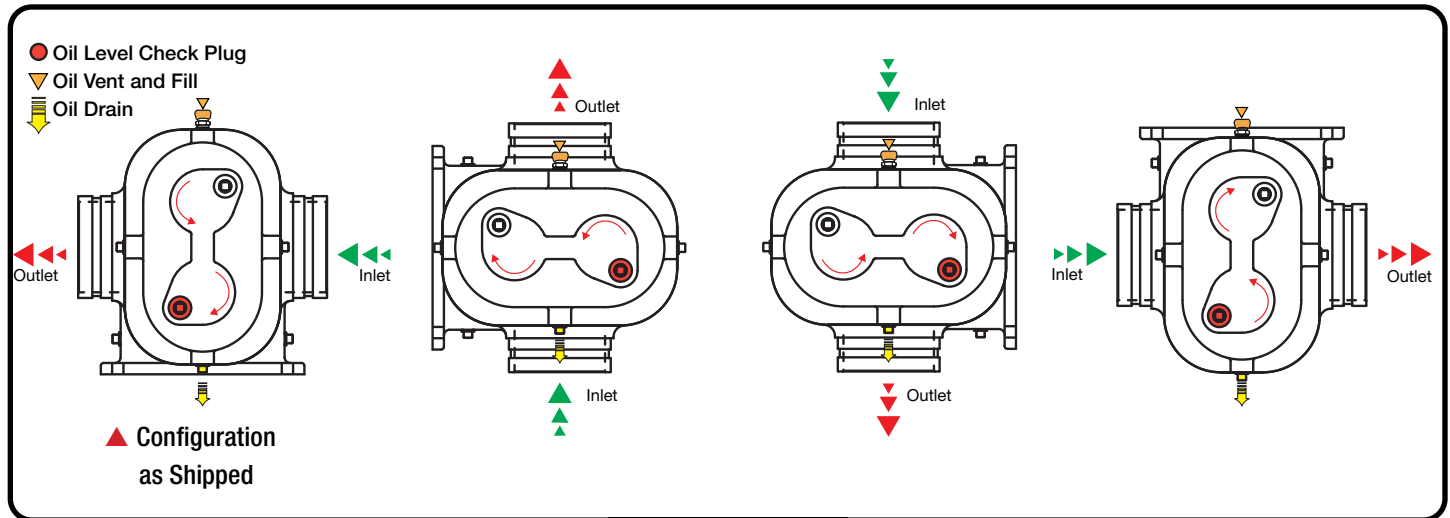
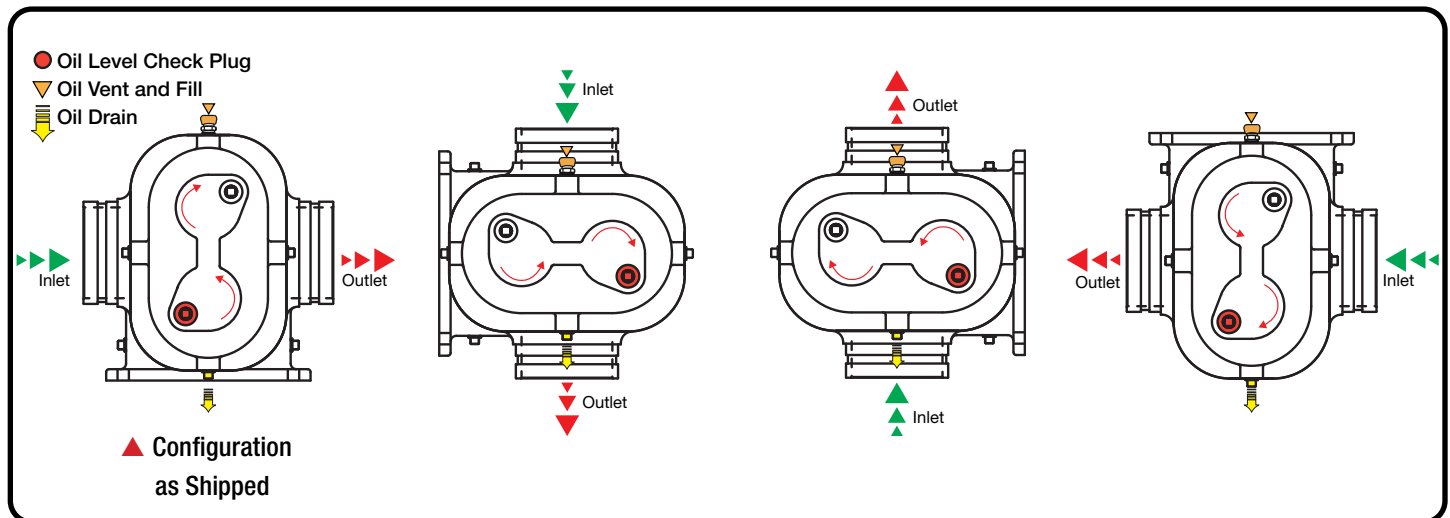

Figure 3
Figure 4
The pump can be installed in various orientations to suit your piping needs as shown in **Figure 3** below. **NOTE:** This diagram shows the standard rotation of the pump. Reverse Flow Direction is shown in **Figure 4** below. For other configurations, please contact the factory. The installed orientation affects the location of the following; Oil Level Check, Oil Fill, Oil Vent and Oil Drain. These ports utilize ¼" NPT Pipe Threads/Plugs. Refer to **Figures 3 and 4** to alert all operators and maintenance personnel of your specific installation so that proper inspection and maintenance can be performed. **NOTE:** Utilize Teflon Tape or Pipe Sealant on all timing gear cover pipe fittings.
NOTE: The left hand image in **Figures 3 and 4** illustrate the standard factory assembly configuration for the oil level plug, oil fill/vent and magnetic oil drain plug. Pump installer must re-orient these fittings to match final mounting position. Failure to do so will void warranty.
1. Check for proper oil level and placement of oil level check, oil fill, oil vent and oil drain. Refer to Figures 3 and 4 on Page 13.